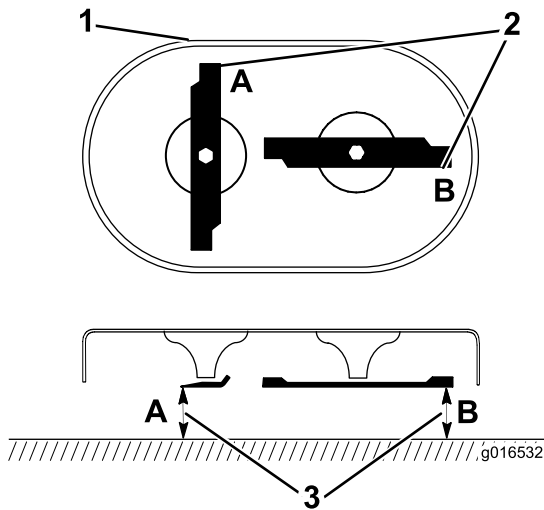

Figure 39
1. Rotate the blades until they are positioned as shown in Figure 39.
2. Measure from a level surface to the cutting edges at locations **A** and **B**, (Figure 39), and record both dimensions.